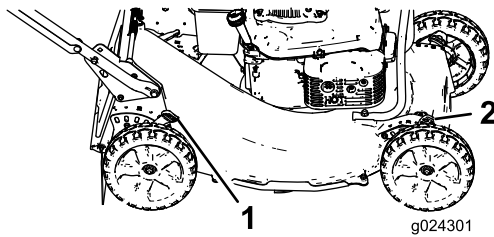

Figure 10
1. Pull the cutting-height lever toward the wheel (Figure 10) and move the lever to the desired setting.